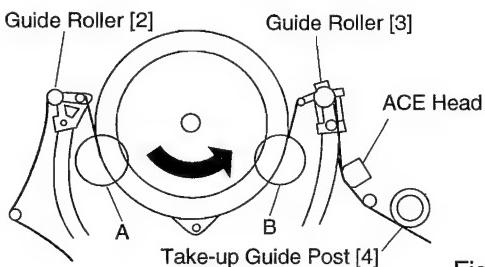
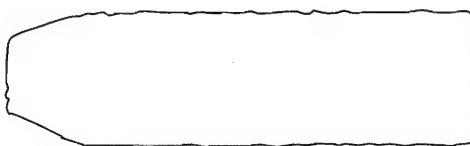
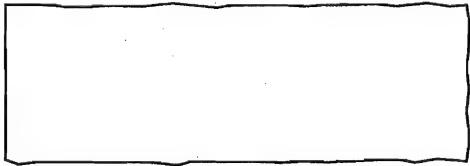

Fig. M3
Fig. M7
Fig. M9
1. Play back a blank cassette tape and check to see that the tape runs without creasing at Guide Rollers [2] and [3], and at points A and B on the lead surface. (Refer to Fig M3 and M4.)
2. If creasing is apparent, align the height of the guide rollers by turning the top of Guide Rollers [2] and [3] with a Guide Roller Adj. Screwdriver. (Refer to Fig. M3 and M5.)
3. Check to see that the tape runs without creasing at Take-up Guide Post [4] or without snaking between Guide Roller [3] and ACE Head. (Fig. M3 and M5)
- Play back the Gray Scale on the Alignment Tape (FL8N). Set the Tracking Control Circuit to the center position by pressing the CH UP and then the PLAY button on the VCR. Adjust the height of Guide Rollers [2] and [3] (Fig. M3, Page 2-3-3) watching the oscilloscope display so that the envelope becomes as flat as possible. To do this adjustment, turn the top of the Guide Roller with the Guide Roller Adj. Screwdriver.
- If the envelope is as shown in Fig. M7, adjust the height of Guide Roller [2] (Refer to Fig. M3) so that the waveform looks like the one shown in Fig. M9.
- If the envelope is as shown in Fig. M8, adjust the height of Guide Roller [3] (Refer to Fig. M3) so that the waveform looks like the one shown in Fig. M9.
- When Guide Rollers [2] and [3] (Refer to Fig. M3) are aligned properly, there is no envelope drop either at the beginning or end of track as shown in Fig. M9.
**Note:** Upon completion of the adjustment of Guide Rollers [2] and [3] (Refer to Fig. M3), check the X Value by pushing the CH UP or DOWN buttons alternately, to check the symmetry of the envelope. Check the number of pushes to ensure center position. The number of pushes UP to achieve 1/2 level of envelope should match the number of pushes DOWN from center. If required, redo the "X Value Alignment."